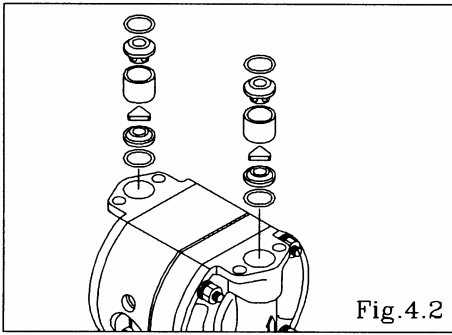

Fig.4.2
- Remove the O ring, valve stopper, valve guide, flat valve and valve seat. (NDP-5) [Fig.4.2]
- Remove the O ring, valve guide, ball and valve seat. (NDP-15) [Fig.4.2]